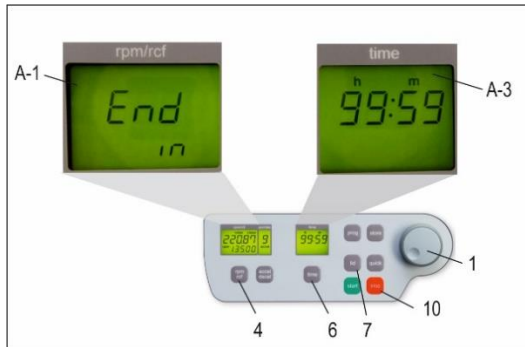

Figure 28
For all number marked text, please refer to Figure 28 and 29 .
- **Take the delivered box spanner, put it into the hole, and lock the box spanner, with the hexagon nut (see Figure 28).**